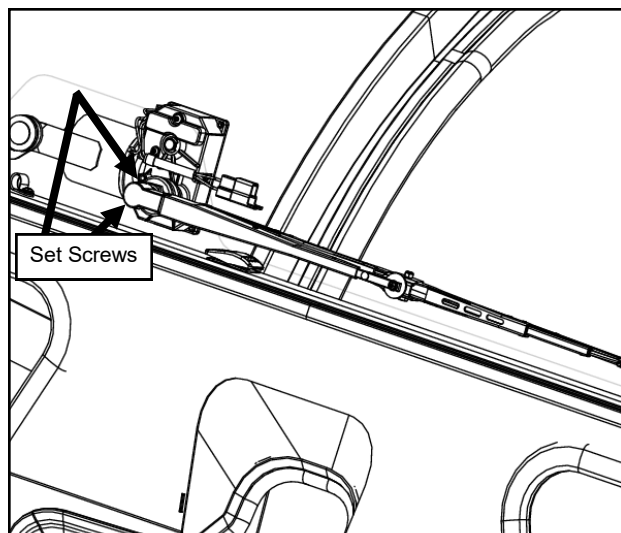

Fig. 20.3 (Wiper Arm and Blade)
- 20.3 Install the wiper arm onto the wiper motor so that the wiper is horizontal. See Figure 20.3. Tighten the Set Screws.